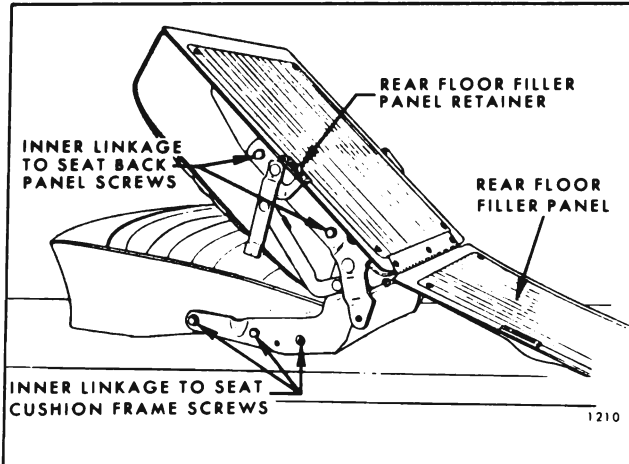

Fig. 15-72—Folding Second Seat Inner Linkage
3. Remove three screws securing seat inner link to cushion frame (Fig. 15-72); then remove seat cushion and frame assembly from linkage. If required, remove cushion front and rear floor pan linkage.
3. Remove seat inner linkage-to-seat back panel and seat cushion frame attaching screws (see Fig. 15-72); then, disengage and remove side linkage from seat.